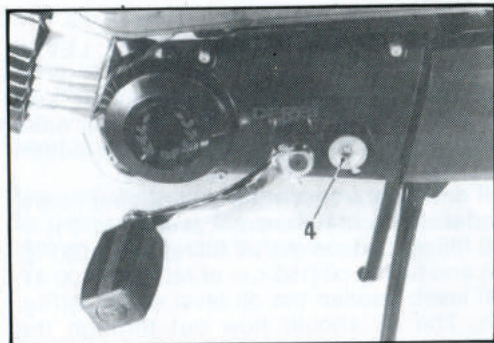

Fig. 33
In order to pedal, pull the button (4) (Fig. 33). If it is stiff, turn the wheel forward a little. Engine position: proceed in the opposite way.